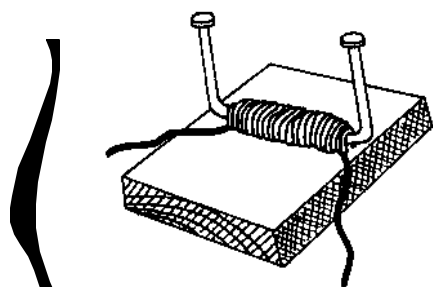

Figure 9
- Attach the stator or "Field" to the wood base at each end of the wire with staples or small brads bent over as shown in *figure 9*. The field poles are now in place.